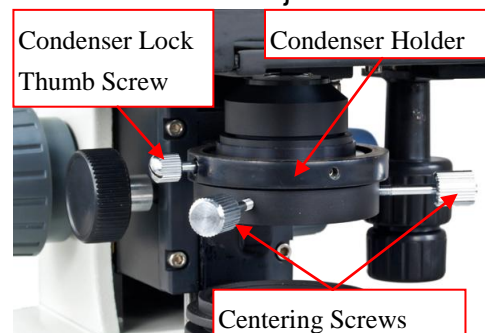

Fig.13
- Install the oil darkfield condensers and tighten the condenser lock thumb screw on the condenser holder (see **Fig. 13**).